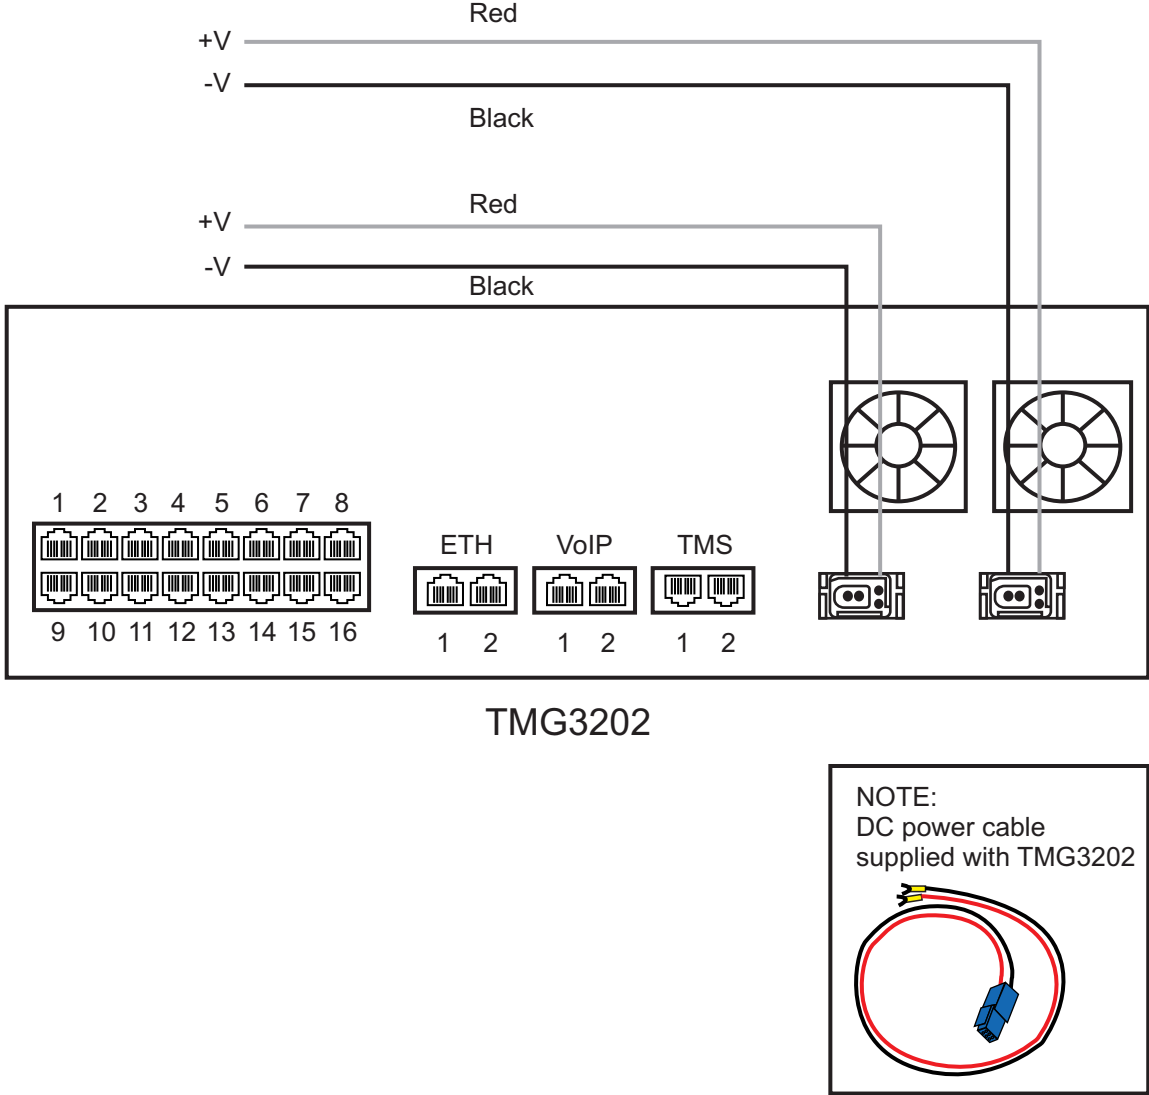

Figure 2.10 TMG3202 DC wiring diagram
- 1. Connect the DC cable supplied with the TMG3202, as shown in figure 2.10 on page 21, to the DC outlet at the rear of the TMG3202.
- 2. Connect the red lead of the DC power cable to the positive terminal of the DC power source, as shown in figure 2.10 on page 21.